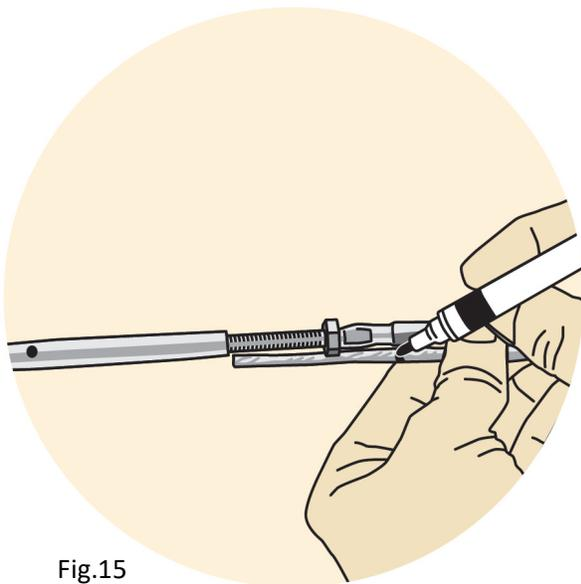
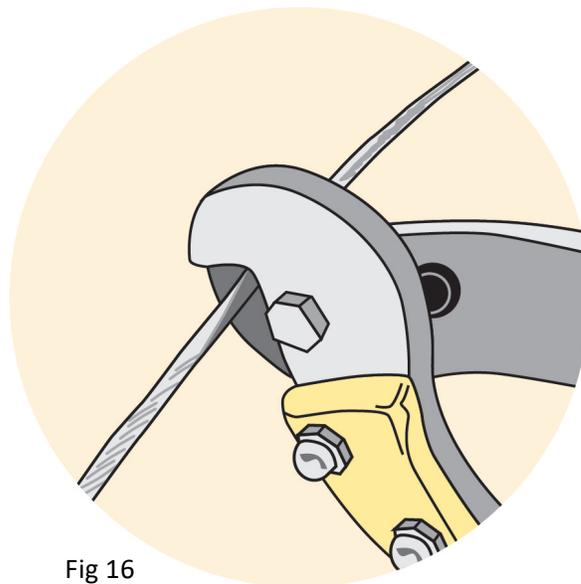

Fig.15
Fig 16
- b) Pull all slack out and hold cable adjacent to the Classic Button Turnbuckle/Swage Button End and mark the cable where it matches mark on the fitting (Fig. 15). Cut cable to its final length (Fig. 16).